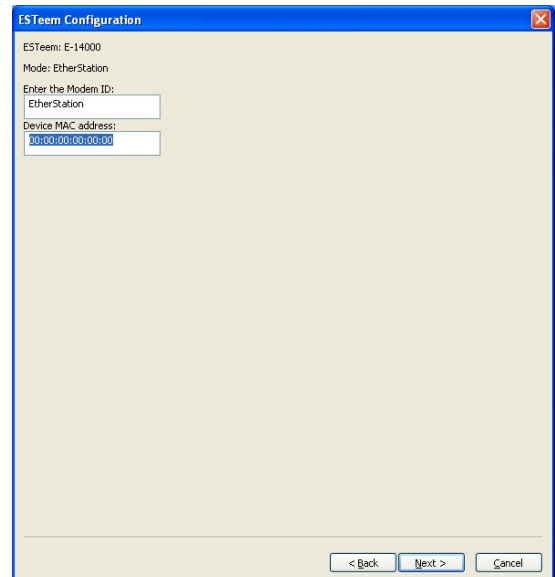

Figure 25: MAC Address Entry
4. EtherStation mode should be selected in the Mode of Operation. Press the Next button at the bottom of the window to continue. Enter the connected Ethernet device’s MAC address in the “Device MAC Address” box (Figure 25) and press the Next button at the bottom of the window to continue.